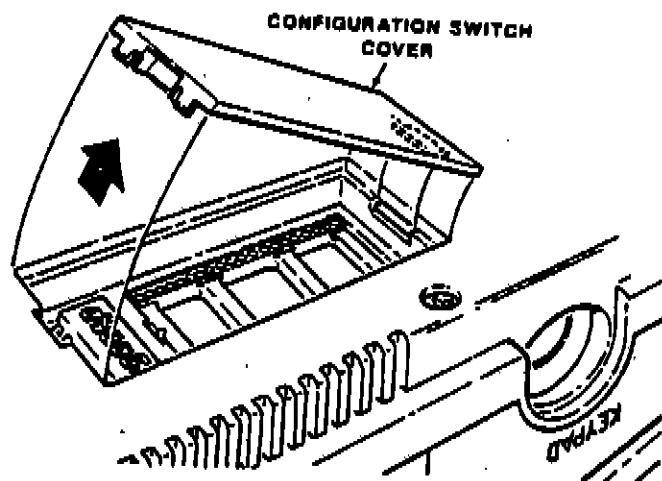

Figure 2-4. Removing the Configuration Switch Cover
4. Carefully pry up on the configuration switch cover, as shown in Figure 2-4.